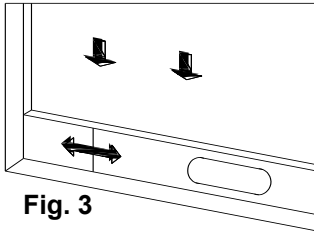
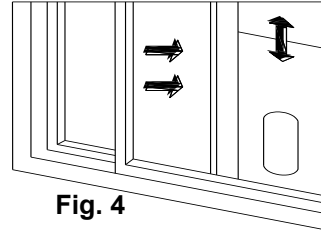

Fig. 3
Fig. 4
1) Half open the window, and mount the window sealing plate assembly to the window (as shown in Fig.3 and Fig.4).Components can be placed in horizontal and vertical direction.